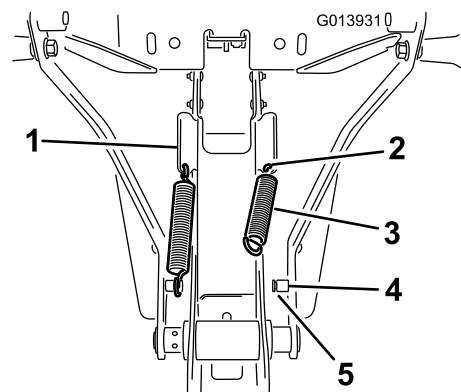

Figure 7
1. Install the spring in the hole in the lower end of the angled tab on the side of the frame assembly (Figure 7).
2. Hook one end of the spring into the hole and the other end onto the spring post (Figure 7).
3. Make sure that the spring end is seated properly in the groove in the post (Figure 7).